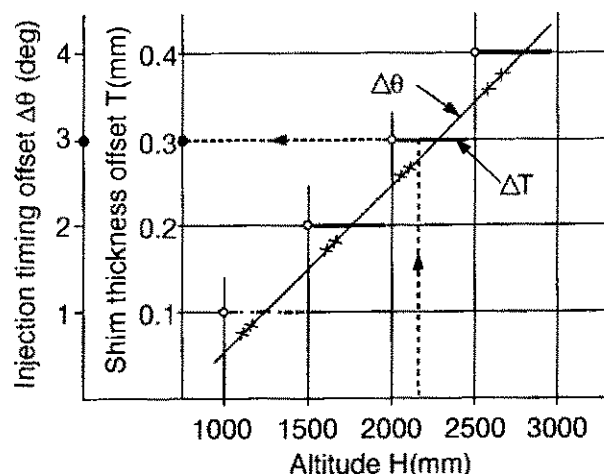

Fig. 7.4.1 Offset shim thickness
- ① Complete adjustment of injection timing θ for the lowland and take note of adjustment shim thickness T .
- ② Obtain shim slickness ΔT to be decreased and injection timing $\Delta\theta$ to be increased based on the altitude H where the diesel generator is used and the correction shim thickness shown in Fig. 7.4.1.